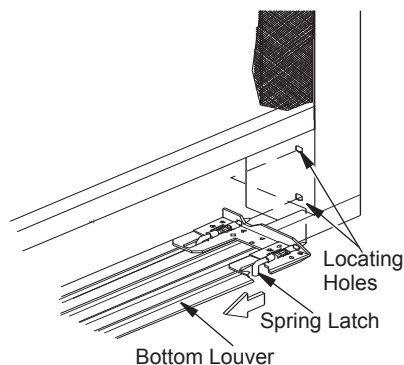

Figure 16 - Removing Bottom Louver
2. Remove bottom louver by pulling both spring latches (located in each end of louver) toward center of appliance at the same time until disengaged from locating holes in firebox (see Figure 16).